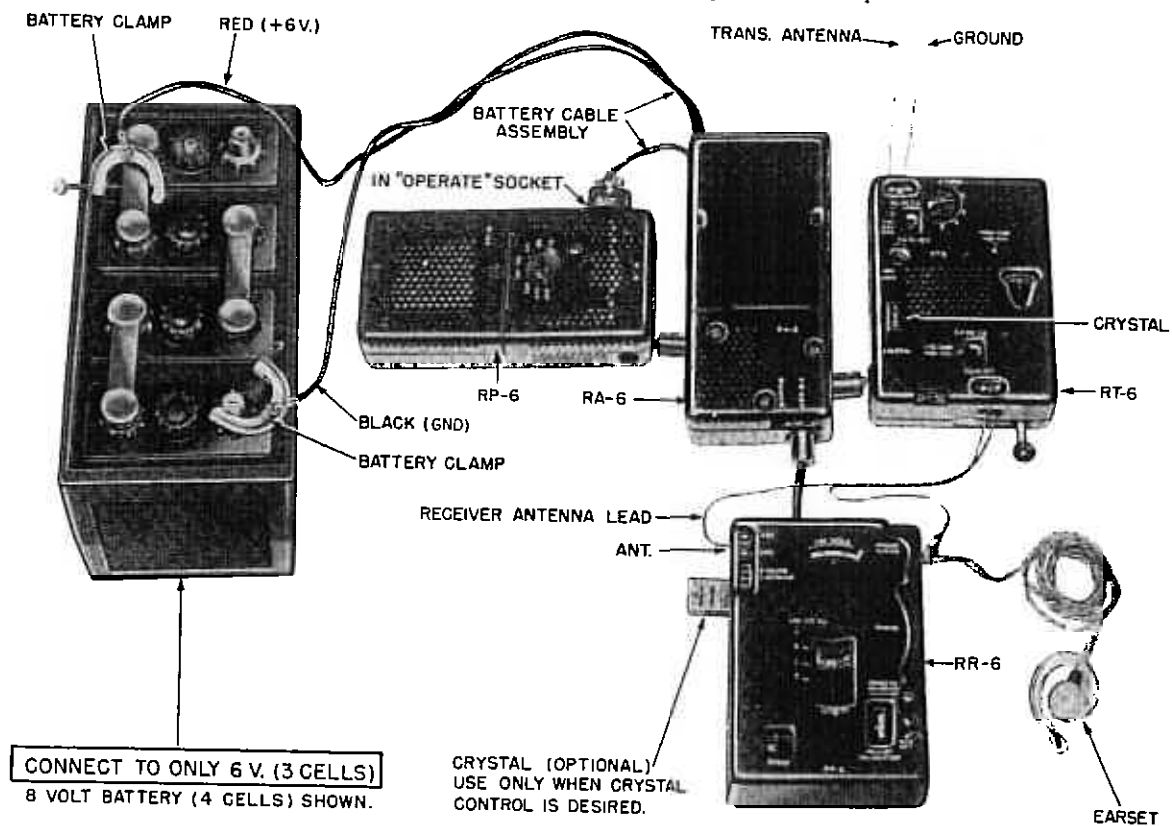

Figure 6. Radio Station RS-6, battery operation hook-up.
c. Connect equipment as shown in Figure 6 (receiver crystal shown is optional).
(1) Use only a 6-volt storage battery source. If only an 8- or 12-volt storage battery is available, connect across only 6 volts (3 cells) of the battery. See Figure 6.
(2) The Jones plug marked BAT must be inserted in the OPERATE receptacle on Power Supply RP-6 before the battery clamps are connected to the storage battery, otherwise "hot" terminals will be exposed and equipment may be damaged.
(3) Connect the red battery lead to the positive 6-volt terminal of the battery, and the black battery lead to the negative terminal.